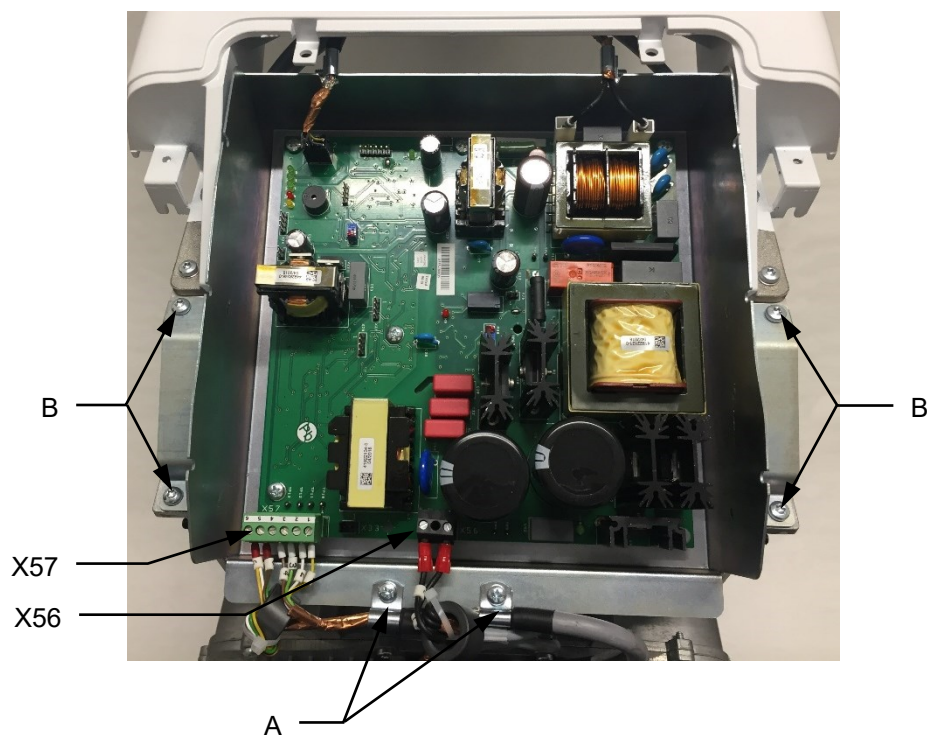

Figure 38
8. Connect X56 and X57 connectors and fix the cables fixing clamps "A" (Figure 38).